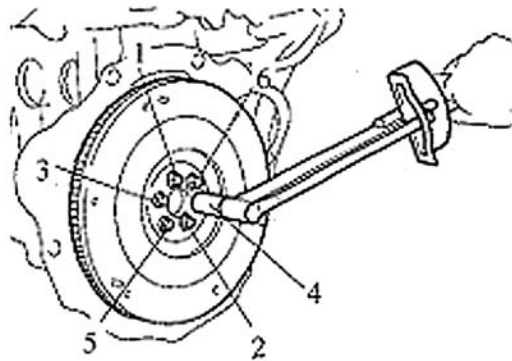

Figure 79
8. Install flywheel sub-assembly. See (Figure 79)